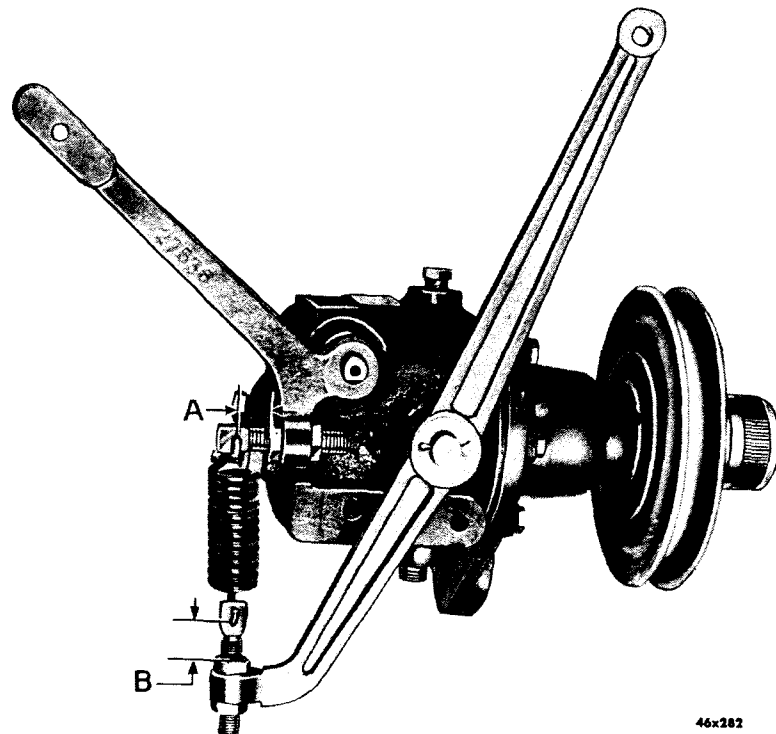

Fig. 64—Hoof Mechanical Governor Lever Adjustments
(1) Adjust upper eye bolt to $\frac{5}{8}$ inch from center of eye to out face of lock nut (Fig. 64).
(2) Adjust lower eye bolt to $\frac{3}{4}$ inch from center of eye to upper face of lock nut.
(3) Adjust length of governor to carburetor rod to enter the governor lever as throttle starts to open.
(4) Attach a tachometer, start and run engine to operating temperature.
(5) With governor clutch engaged, pull both dash control rods out. Engine no load speed should be from 1750 to 1800 rpm, and free from surge.